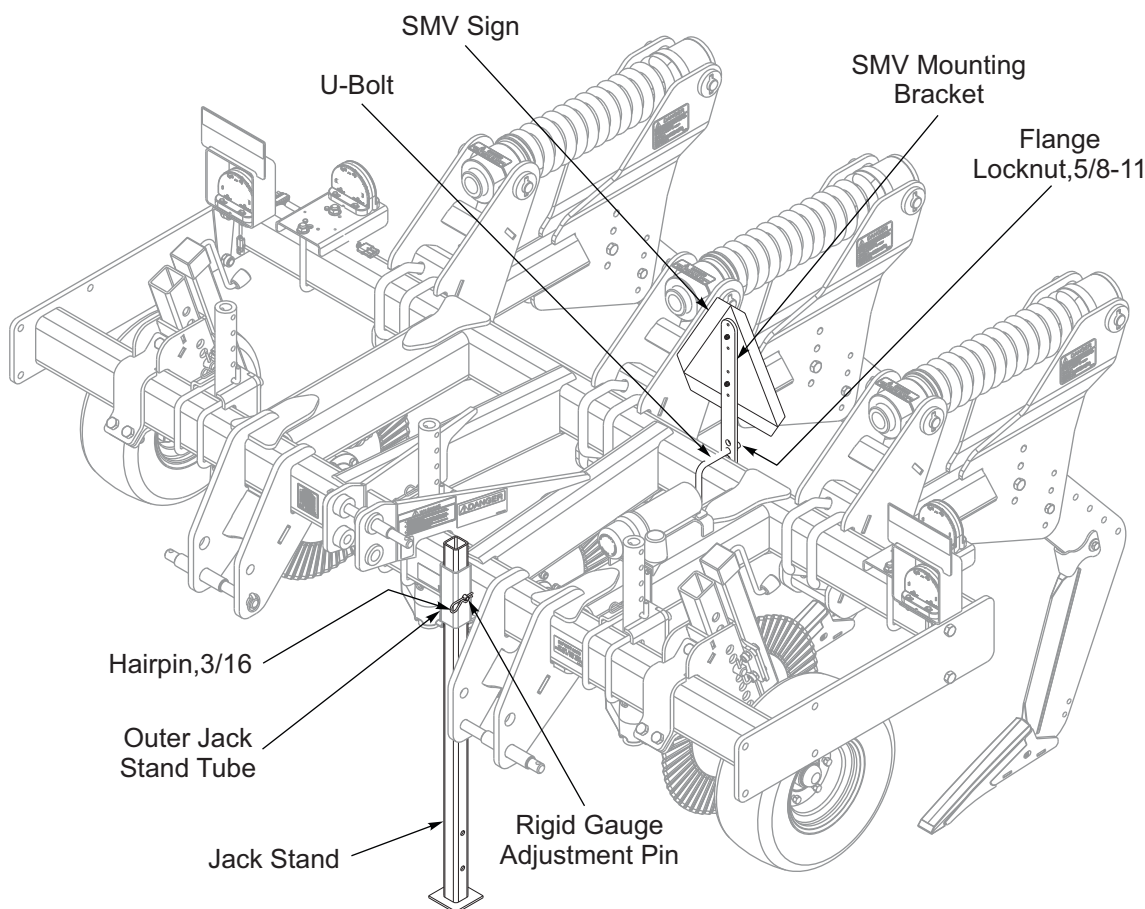

Figure 3-1: Jack Stand and SMV Sign
3. Insert Jack Stand through bottom of Outer Jack Stand Tube and pin at desired level with Rigid Gauge Adjustment Pin and 3/16 Hairpin. *See Figure 3-1.*
1. Attach the SMV Mounting Bracket at a point where emblem is visible from rear of machine, using U-Bolt and 5/8-11 Flange Locknuts. *See Figure 3-1.*
The following instructions are for attaching the shanks to the Auto-Reset Shank Clamp (Spring), or the RSB Shank Clamp. **See Figures 3-1 and 3-2.**